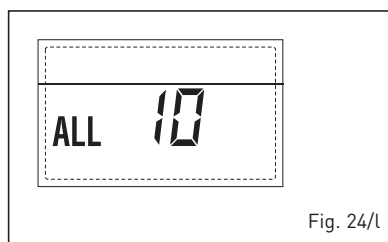

Fig. 24/l
– **MODULATOR ANOMALY "ALL 11" (fig. 24/m)**